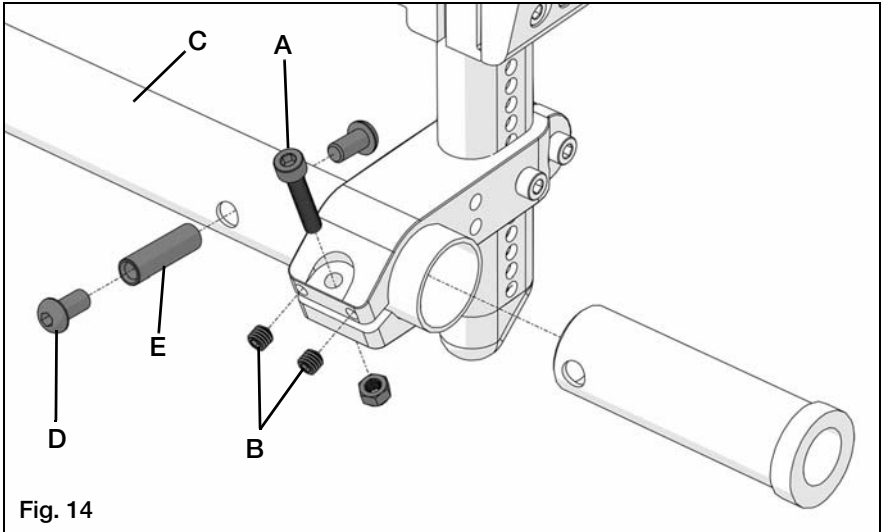

Fig. 14
1. Loosen the two cap screws (Fig. 14:A) (1 per side) that secure the camber tube clamp. Then loosen set screws (Fig. 14:E), 2 per side.
2. Rotate the camber tube (Fig. 14:C) until the screws (Fig. 14:D) that secure the camber adapters are level with the ground. The toe is now set at zero.
3. Before tightening the screws (Fig. 14:A and B), make certain that the camber tube is centered left-to-right relative to the wheelchair frame. There should be an equal gap on both sides or none at all.
4. Tighten one screw to 80 in/lb (Fig. 14:A) then tighten the screw on the opposite side to 80 in/lbs.
5. Tighten set screws (Fig. 14:B) until securely in place.